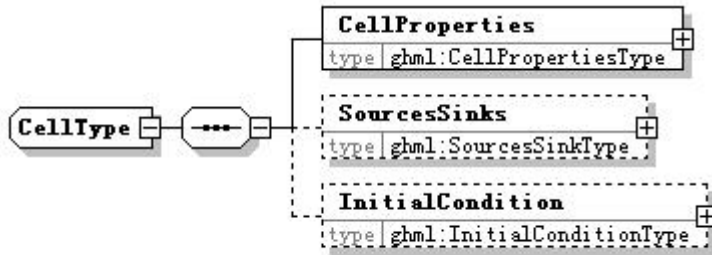

Figure 10. CellType
- **Cell [CellType]** - Properties of a cell. Cells can be divided into two types: boundary cells and normal cells (Figure 10).